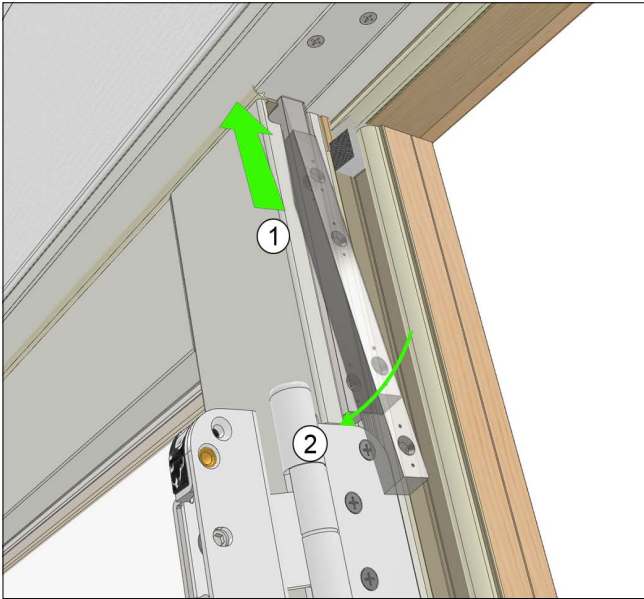

Figure 30
4. Seat the lock bar into the panel Eurogroove and up into the head jamb strike aligning top hole on lock bar to the removed screw hole already in the panel. See Figure 30. Be mindful not to overshoot the bolt as this will cause the header to bow upward.